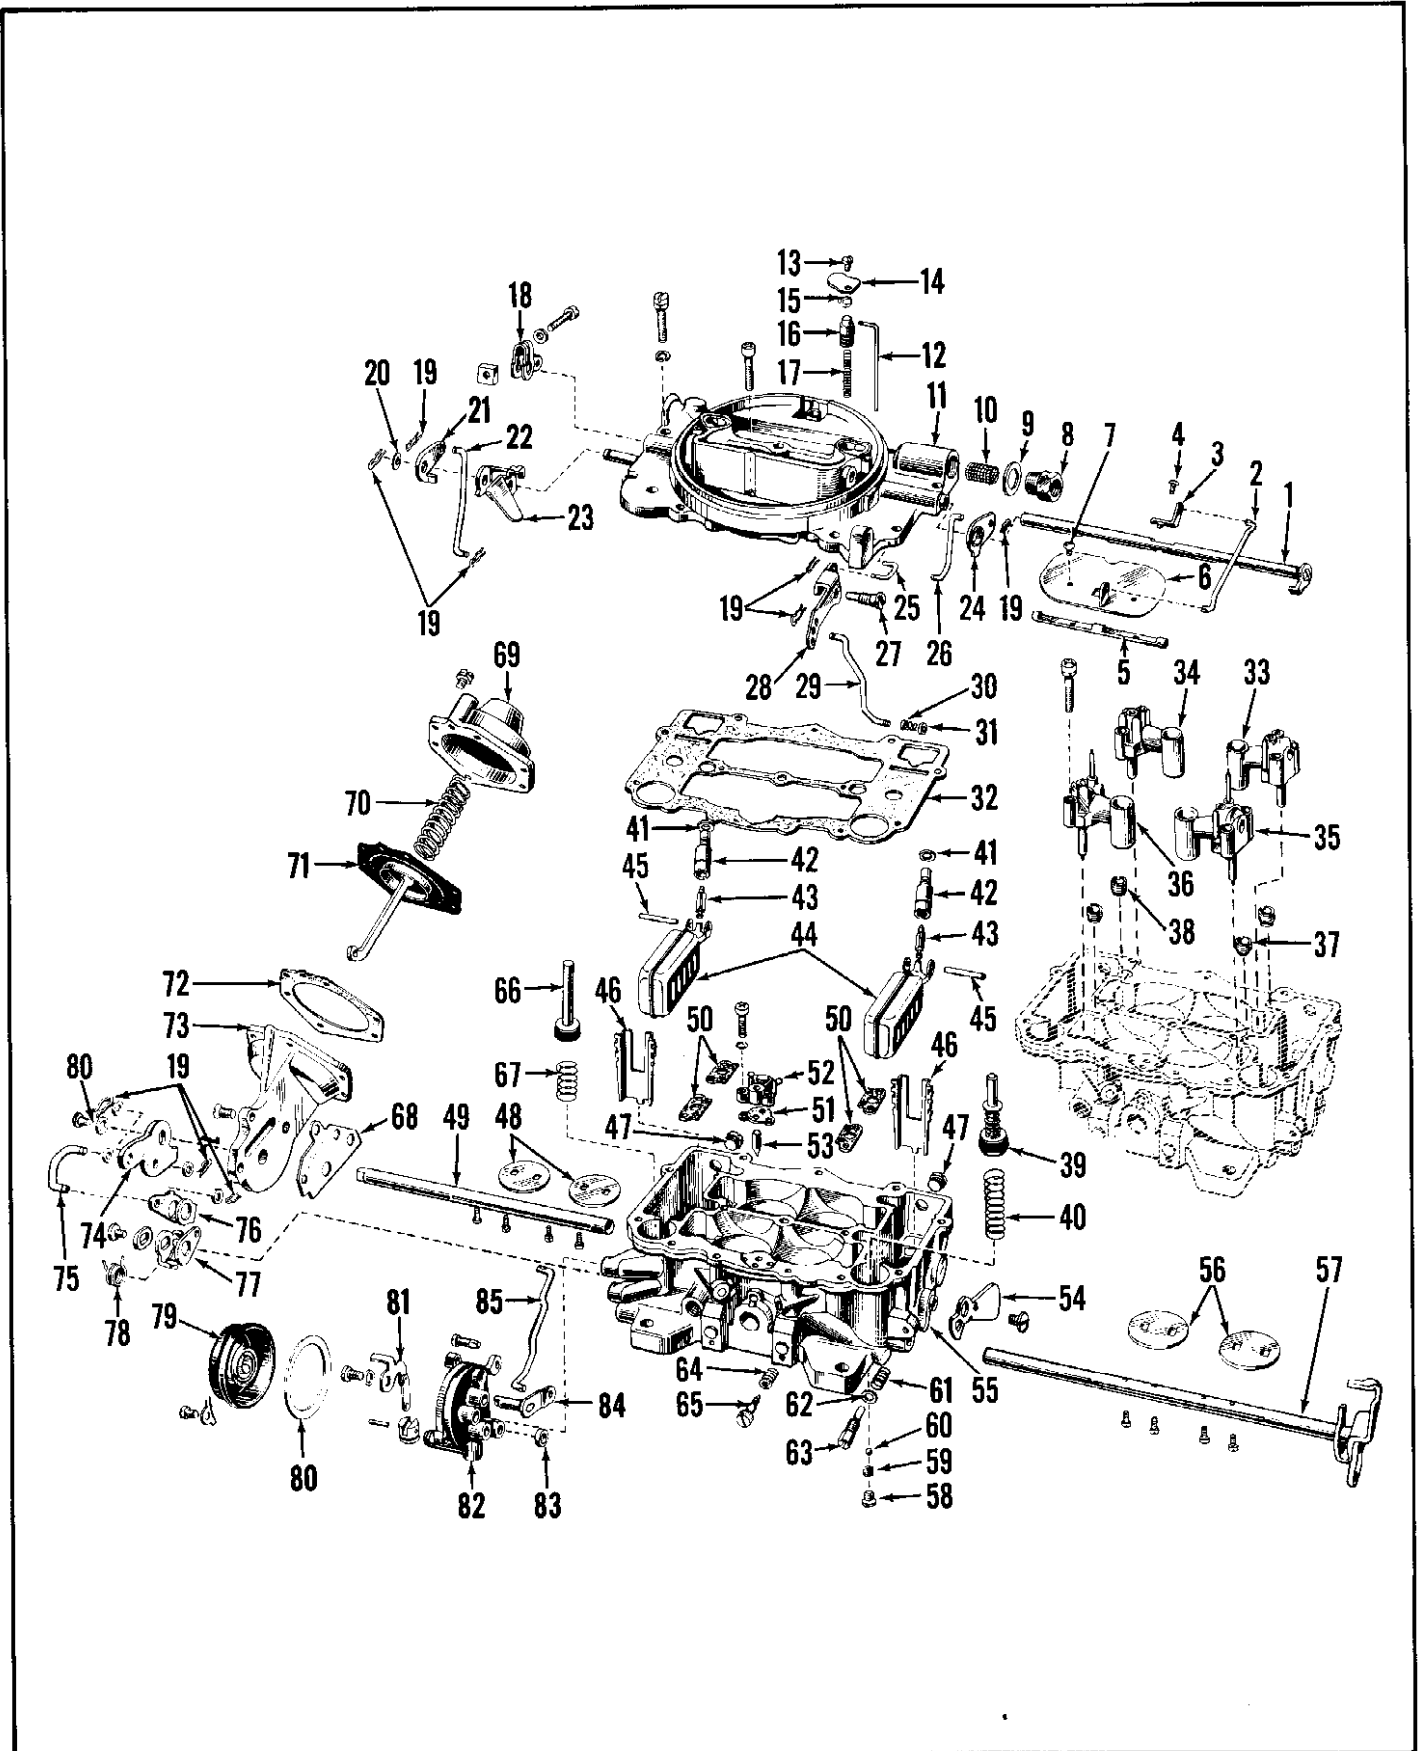

Fig. 9E-20—AFB Carburetor—Disassembled
10. Remove the two primary venturi attaching screw and lockwasher assemblies from each primary venturi, then remove the two primary venturi assemblies and gaskets. Do not attempt to disassemble the venturis. See figure 9E-21.
(See figure 9E-20.)